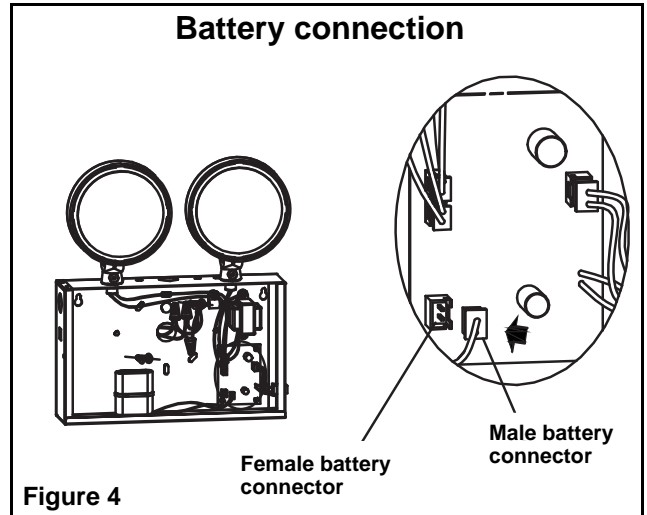

Figure 4
9. Connect battery connector to the PCBA (see figure 4).